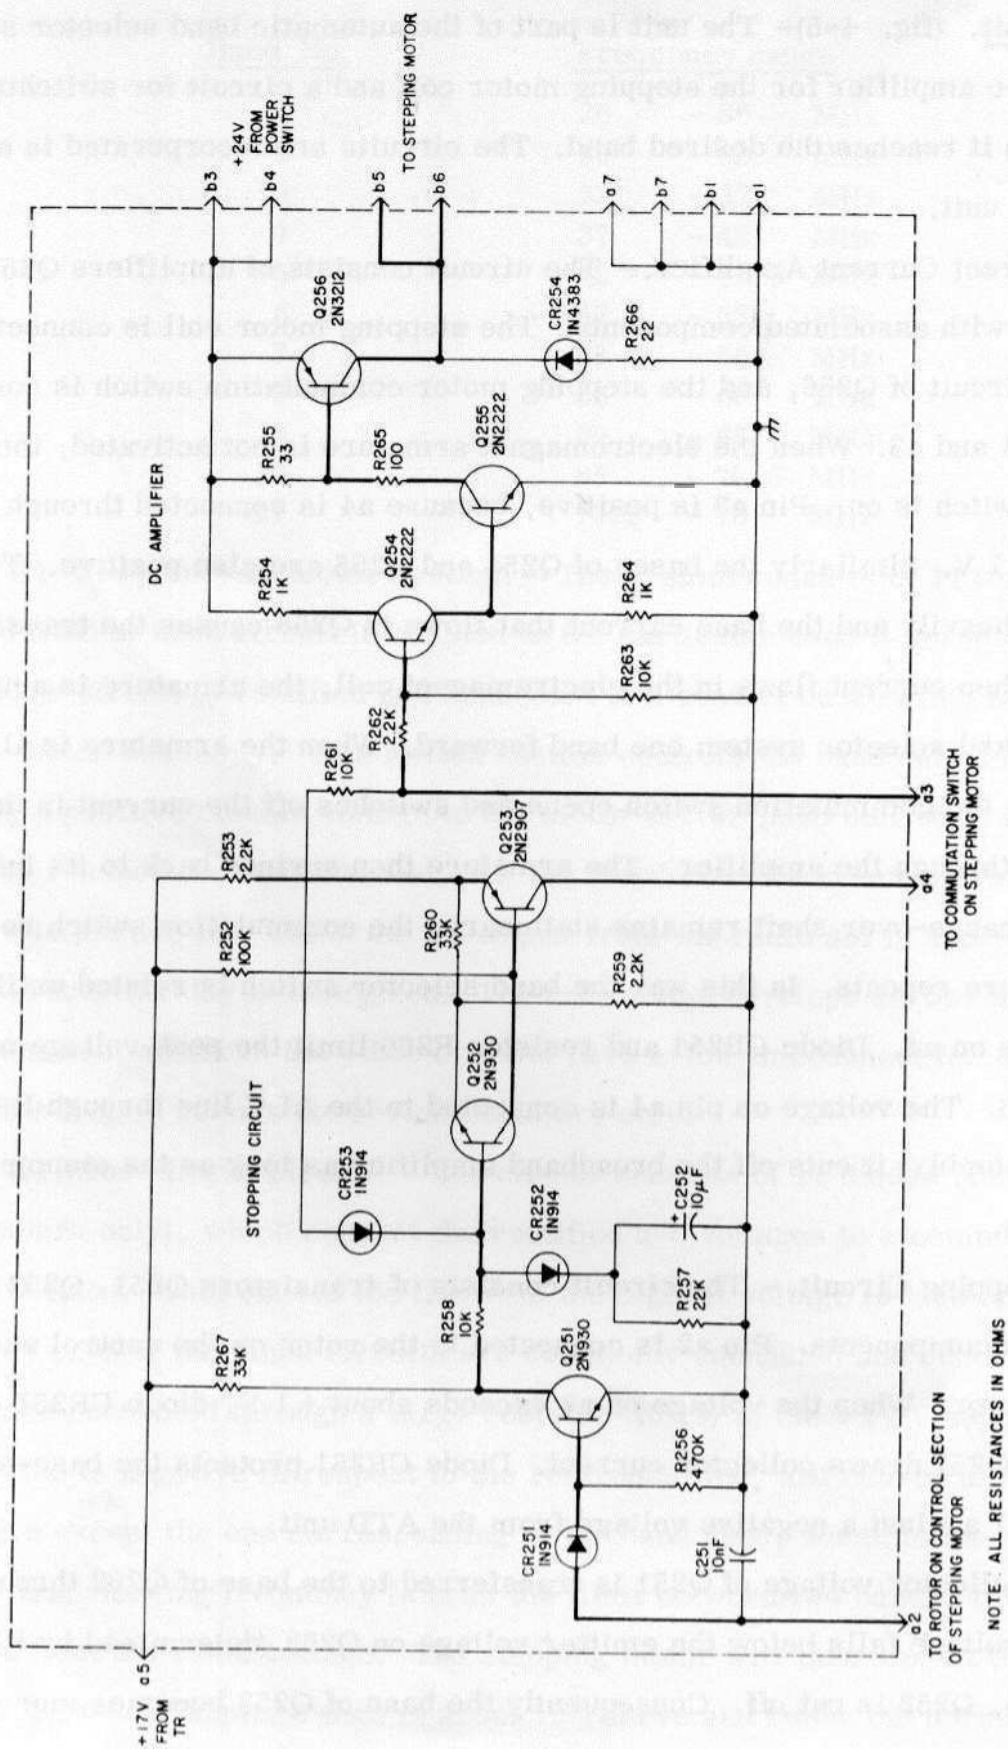

Figure 4-5. Motor Driver (MD) Unit A250, Schematic Diagram
(1) Frequency Detector System. - The system consists of 11 tuned circuits. The bandwidth of each circuit is adapted to the particular band it serves. The voltage across each circuit is rectified and connected to a contact on a switch section in the stepping motor assembly. This switch section controls the band selector system, by providing a positive disable voltage to the motor driver (MD) unit when the stepping motor has reached the correct band. All the tuned circuits are connected through resistors to pin a7, into which the r-f signal from the radio set is applied when the transmit/receive relay is energized. The r-f voltage develops across the circuit that is in resonance, whereas the other circuits have a low impedance; for these circuits the voltage drop is across the series resistors only.
(2) Diode Logic Circuit. - The circuit consists of 11 diodes (CR302 - CR322, even numbers only), which connect the rectified d-c voltages to a common reference line of 1 V fixed. This causes the line with the highest voltage to lock on 1.5 V. The "cold" ends of the tuned circuits are commonly connected and decoupled to ground, but they are connected through a large resistor (R313) to the +17 V supply. This common line is negative in respect to the reference line, and causes all output lines to be negative except the one corresponding to the band used, which locks on +1.5 V. When the transmitting frequency is near the limit between two bands, two tuned circuits develop almost the same voltage. The stepping motor will then stop at the first band reached. This overlapping range is about 10% above and below the normal bandwidth. The antenna filters and matching circuits will operate properly under this condition.
c. MD Unit. (fig. 4-5)- The unit is part of the automatic band selector system. It includes a d-c amplifier for the stepping motor coil and a circuit for switching off the motor when it reaches the desired band. The circuits are incorporated in a two module plug-in unit.
(1) Direct Current Amplifier. - The circuit consists of amplifiers Q254, Q255 and Q256 with associated components. The stepping motor coil is connected to the collector circuit of Q256, and the stepping motor commutation switch is connected between pins a4 and a3. When the electromagnet armature is not activated, the commutation switch is on. Pin a3 is positive, because a4 is connected through Q253 and R253 to +17 V. Similarly the bases of Q254 and Q255 are also positive. Transistor Q255 conducts heavily and the base current that flows in Q256 causes the transistor to saturate. When current flows in the electromagnet coil, the armature is activated and turns the band selector system one band forward. When the armature is almost fully attracted, the commutation switch opens and switches off the current in the electromagnet through the amplifier. The armature then springs back to its initial position, the change-over shaft remains stationary, the commutation switch reconnects, and the procedure repeats. In this way the band selector switch is rotated until no voltage appears on a4. Diode CR254 and resistor R266 limit the peak voltage on transistor Q256. The voltage on pin a4 is connected to the ALC line through R604 in the chassis assembly; it cuts off the broadband amplifier as long as the stepping motor operates.
(2) Stopping Circuit. - The circuit consists of transistors Q251, Q252 and Q253 with associated components. Pin a2 is connected to the rotor on the control section of the stepping motor. When the voltage on a2 exceeds about +1 V, diode CR251 conducts and transistor Q251 draws collector current. Diode CR251 protects the base-emitter junction of Q251 against a negative voltage from the ATD unit.